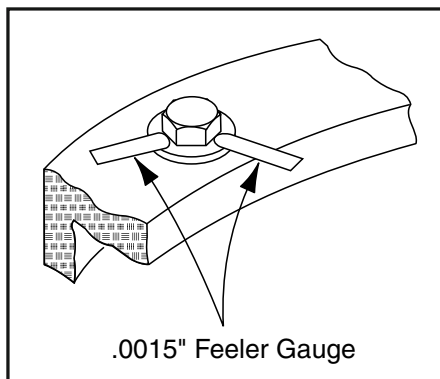

Figure 3-4. Swing Bearing Bolt Feeler Gauge Check
- b. At the positions indicated on Figure 3-4, try and insert the .0015" feeler gauge between the bolt head and hardened washer at the arrow indicated position.
- d. At the position indicated on Figure 3-4, try and insert the .0015" feeler gauge between the bolt head and hardened washer at the arrow indicated position.